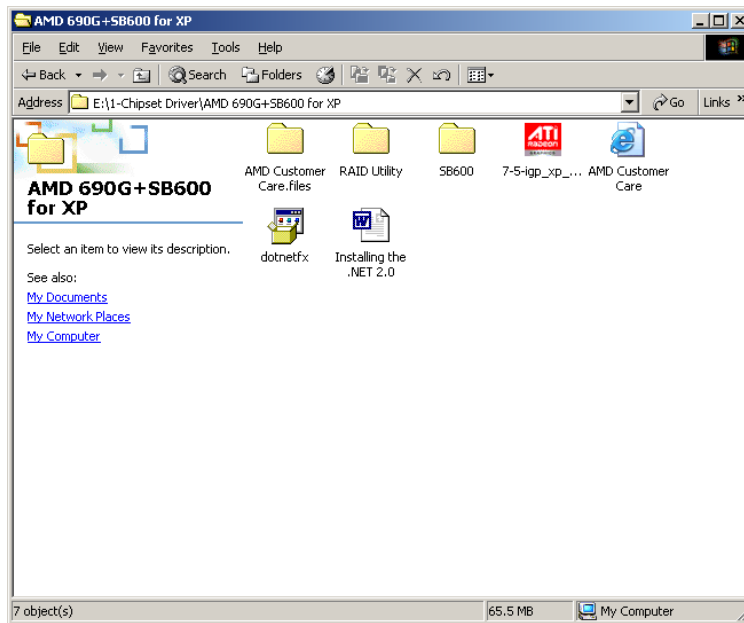

Figure 7-4: Chipset Driver Installation Welcome Screen
Step 4: The screen in **Figure 7-4** appears.